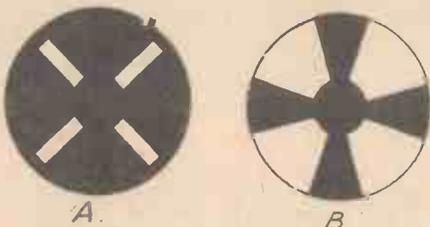

Fig. 7.—The image appearing on the screen of the Mullard electron beam tuning indicator, under conditions of (A) no signal, and (B) maximum signal.
As the rectified output increases due to a signal being tuned in, the grid of the tube becomes more negatively biased, and this grid voltage is amplified by the triode portion of the indicator and applied electronically to the ray control electrode, thus increasing the intensity of the electron stream from the cathode to the target. This target is the phosphorescent end of the tube, and the construction is such that the luminous image appearing on it under conditions of no signal is as shown in Fig. 7 (A). As the signal is received, the arms of the cross gradually widen and assume the position shown in Fig. 7 (B), when the station is tuned in accurately. Full details of this system were given in our issue of September 19th last, and it has the advantage that it is extremely sensitive.
trode, thus increasing the intensity of the electron stream from the cathode to the target. This target is the phosphorescent end of the tube, and the construction is such that the luminous image appearing on it under conditions of no signal is as shown in Fig. 7 (A). As the signal is received, the arms of the cross gradually widen and assume the position shown in Fig. 7 (B), when the station is tuned in accurately. Full details of this system were given in our issue of September 19th last, and it has the advantage that it is extremely sensitive.